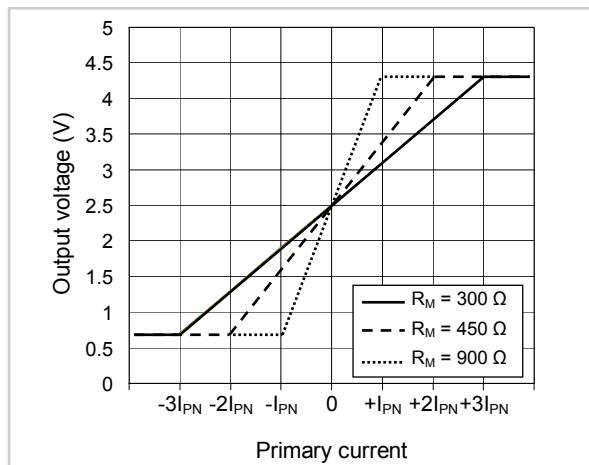

Fig. 2: Characteristic of primary current to output voltage according to different R_M . $V_{refout} = 2.5\text{ V}$.
3) Output voltage is scaled by changing R_M but not beyond these limits. See Fig. 2.
- 4) $R_M > 300\ \Omega$: reduces I_{PR} but increases G_V . See Fig. 2.